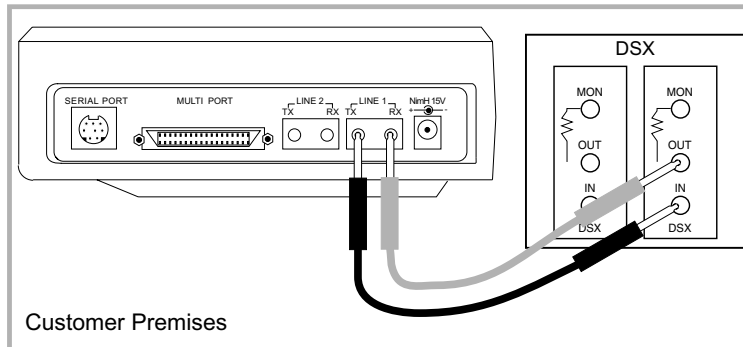

Figure 180 Simple Talk/Listen
3. Connect the SunSet T10 to the circuit as shown in Figure 180. Press the HISTORY key on the keypad to acknowledge the blinking history LEDs.
3. Plug the SunSet T10 into the circuit. Refer to Figure 180, Simple/Talk Listen. Press the HISTORY key on the keypad to clear the blinking LEDs.